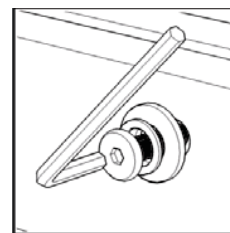

Figure 3
Attach Back Frame (D) to unit with Flat Washers, Spring Washers, Head Cap Bolts (short), Head Cap Bolts (long) and Wood Screws. (See Figures 3 and 4)